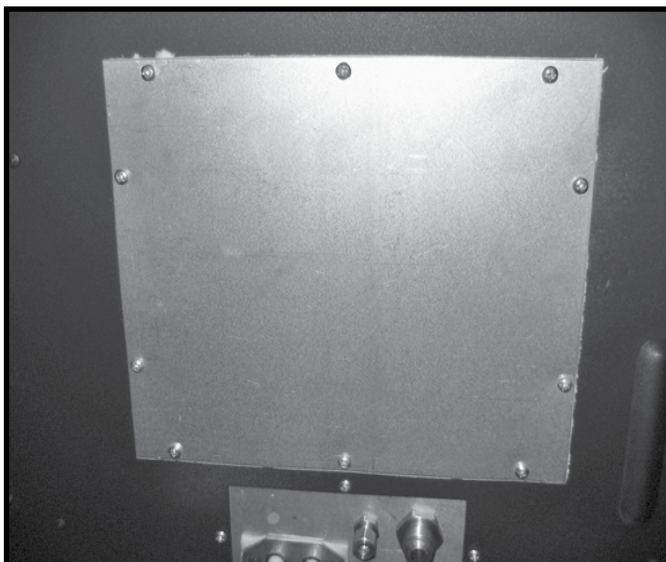

Figure 33: Access panel.
8. Remove access panel, 10 screws, and set aside (Figure 33).